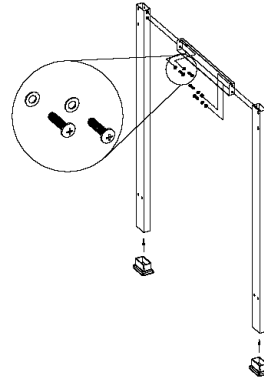

Figure 1
1. Assemble left back cart leg to side cart frame beam using (2) 1/4 x 3/8" Phillips head screws, (2) 1/4" lock washers. Repeat the same step to assemble left front cart leg to side cart frame beam using (2) 1/4 x 3/8" Phillips head screws and (2) 1/4" lock washers. Then attach the foot on the bottom of each leg. (Fig.1)